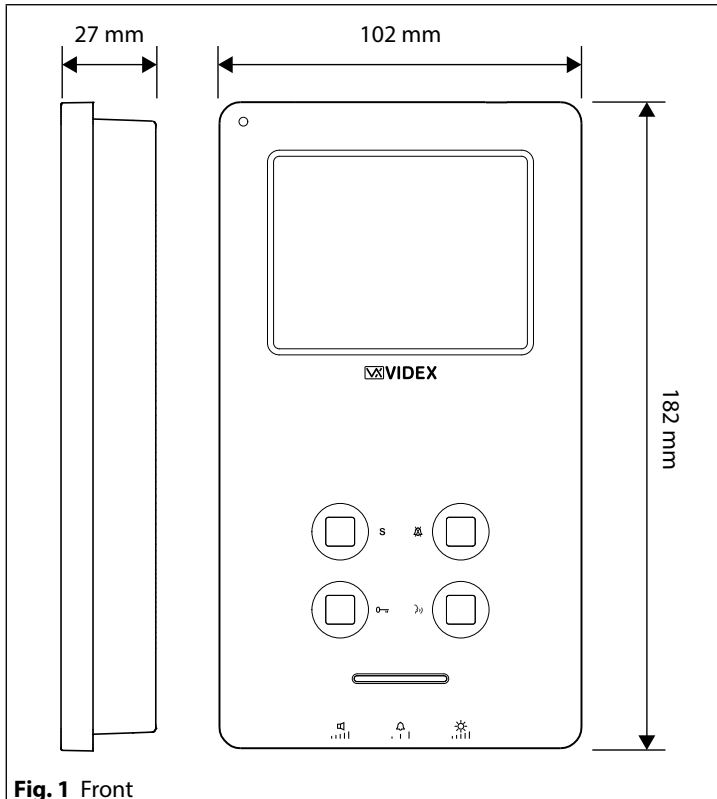

Fig. 1 Front
- Place the surface box against the wall (165-170cm between the top of the box and the floor level as shown in **Fig. 1**) and mark the fixing holes for the wall plugs and the hole for the cables **(E)** (**fig. 2**). Observe the orientation of the box with the hinge on the left;
- Protect the module support frame fixing holes from dust then embed the back box into the wall (165-170cm between the top of the box and the floor level as shown on the **Fig. 1**) feeding the cables **(E)** (**Fig. 2**) through a previously opened hole in the box. Observe the direction of the box ensuring the hinge is on the left and take care that the box profile is in line with the finished wall profile;